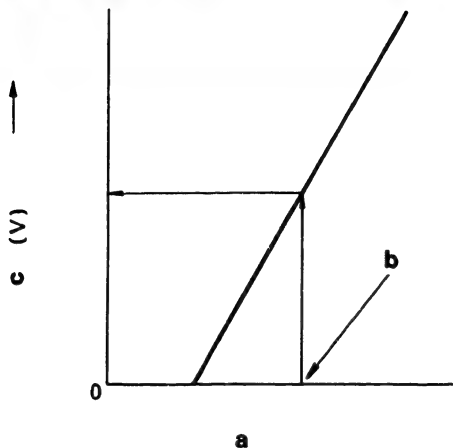

Fig. 223 Output voltage/injection quantity
2. Find the output voltage of the potentiometer using the injection quantity value, measured above, and the characteristic graph in the calibration data indicating the relationship between the output voltages of the potentiometer and the injection quantity values. (Fig. 223)